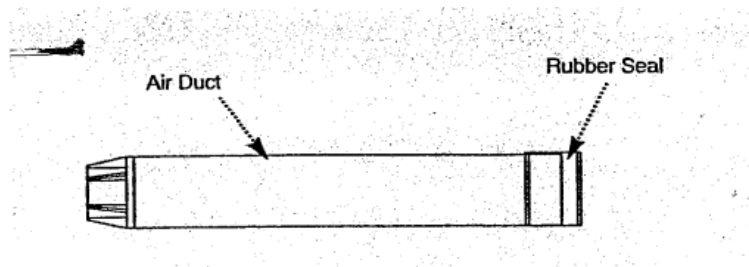

Fig. 25
10. Slide the rubber seat over the air duct with the thicker section outermost (Fig. 25). Align the seal with the end of the air duct.